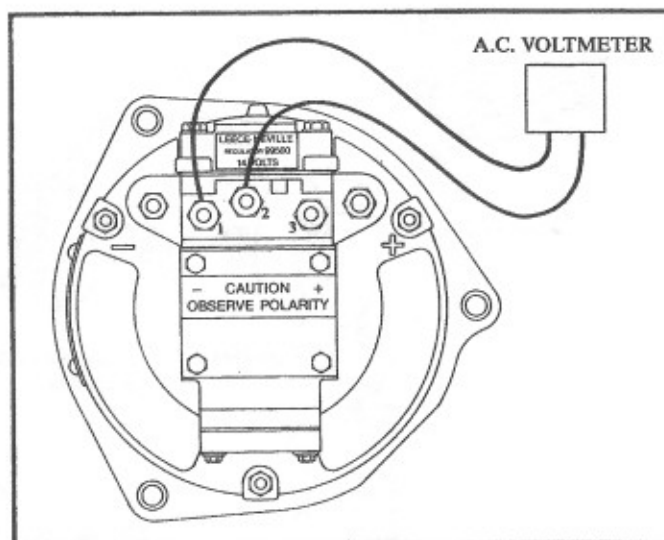

Figure 3
- 1.7 Connect AC voltmeter across alternator AC terminals 1 & 2, 1 & 3, 2 & 3 and compare each of the three AC voltage readings. Stator is OK if all three AC voltages are approximately the same (balanced). Fig. 3.